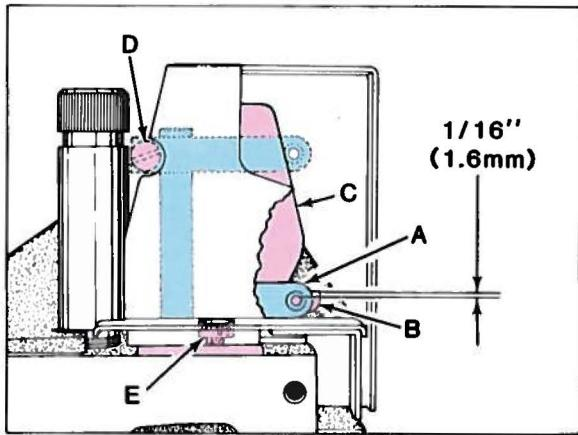

Fig. 22
Needle bar eyelet (A, Fig. 22) should be set with its eyelets  $1/16$  inch (1.6mm) below strike-off (B) on needle thread cam (C) as shown in Fig. 22, with needle bar at BOTTOM of stroke. Adjustments can be made by bringing needle bar up, loosen screw (D) slightly, bring needle bar down to BOTTOM of stroke, reposition eyelet (A) as required and bring needle bar back up to tighten screw (D).